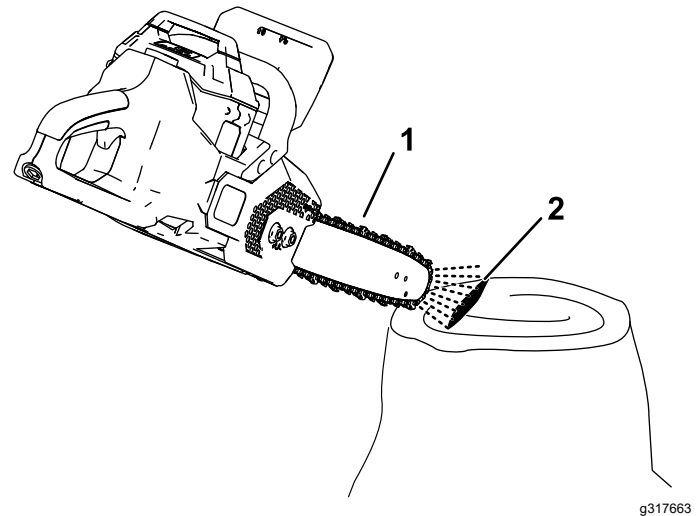

Figure 26
2. To ensure that oil is flowing to the chain, point the nose of the chain saw a few inches from a surface (e.g. paper, cardboard, a stump) and run the chain saw; you should be able to see a light spray of oil on the surface (Figure 26).